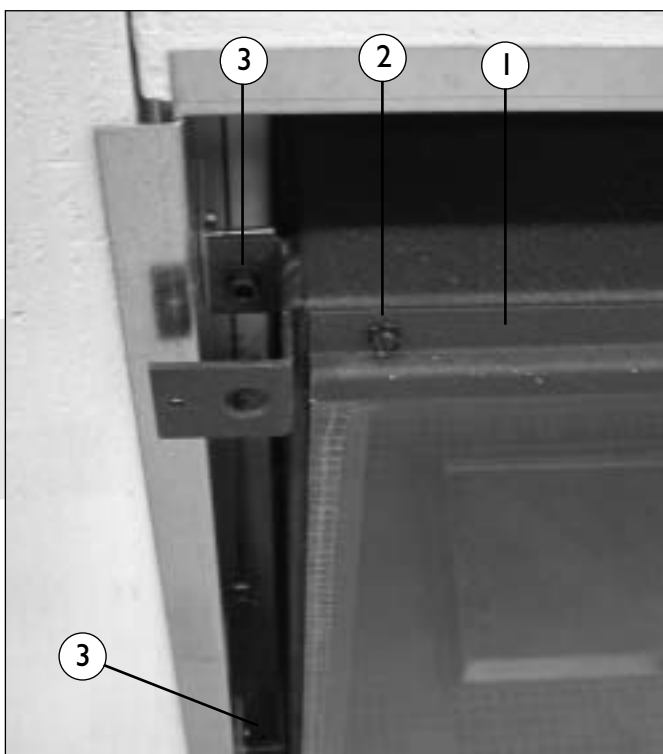
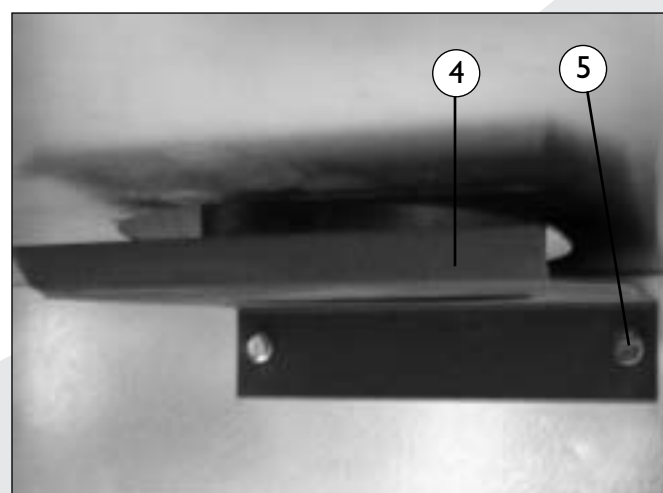

fig. 1
fig. 2
- Take out the glass pane (fig.1) by removing the glass strip at the top (1). This is fitted with 5 self-tapping screws (2).
- Slide the interior out of the casing, by unscrewing the 4 socket-head screws (3).
- Dismantle the outlet connector (4) by removing the 2 self-tapping screws (5), (fig.2).
Once the logs or stones are in position, the glass pane can be replaced and fixed with the glass strip (1) and the 5 self-tapping screws (2) (fig.1).